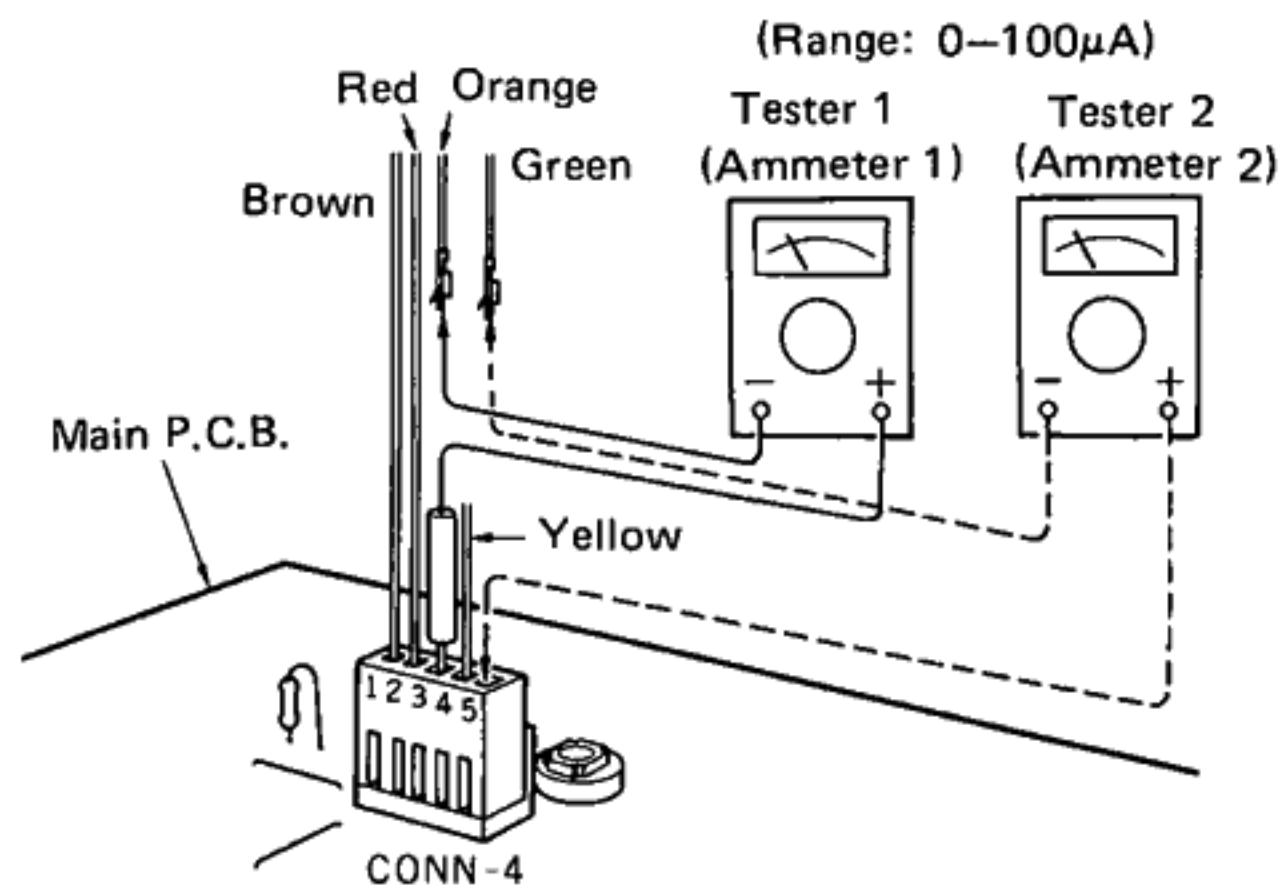

Fig. 13
- 4) Fig. 13 gives a detailed view of CONN-4. Push pins 3 and 5 (at Point A shown in Fig. 13) with a minus (\ominus) screwdriver and remove the lead wire.